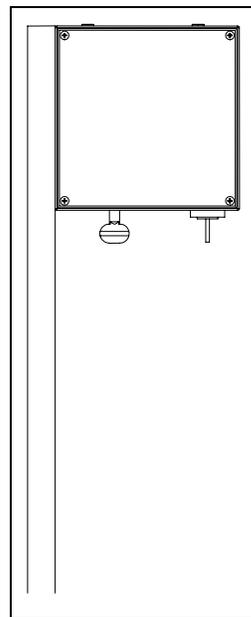

Figure 3
8. Install the sheet metal cover to the retractor housing using the two sheet metal screws previously removed along with two additional sheet metal screws from the hardware packet. These are self-threading screws. (See Figure 3.)